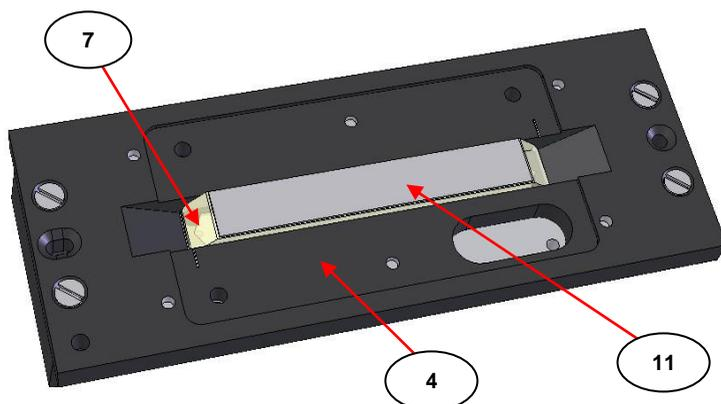

Fig 7. Lead Pad on Underside of ATR Crystal
- 2) Between the underside of the clamp plate (10) and the ATR crystal (7) there is a protective lead pad (11). Carefully remove the clamp plate (10) away to gain access to the lead pad (11). (See Fig 7.) The lead pad (11) may be stuck close to the underside of the crystal (7) and so it needs to be removed very carefully away from the crystal.
- 3) Place the lead pad (11) carefully and centrally on the underside face of the crystal (7), making sure that it does not obscure the input or output angled faces of the crystal. (See as for **Fig 7**.)